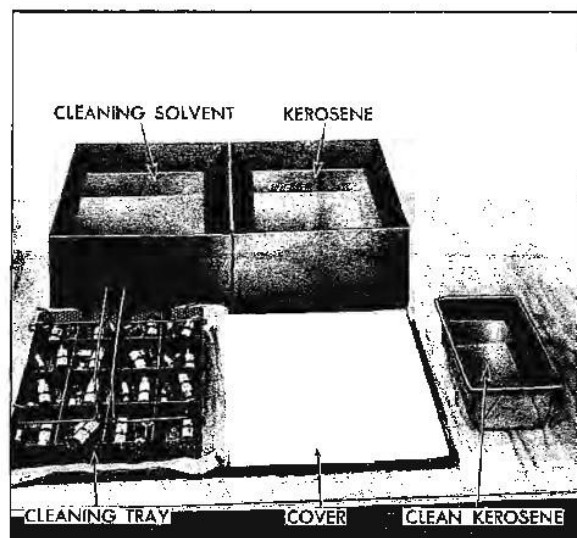

Fig. 6-19 Lifter Wash Tank and Tray
3. Drain oil out of lifter body and place all valve lifter parts in separate compartment of tray from wash tank J-5821 (Fig. 6-19).